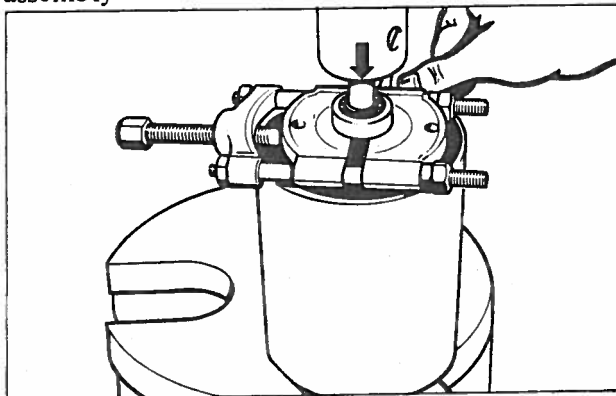

Fig. 51 Pressing bearing out of slip ring end
5. Press the ball bearing out of the slip-ring end with the arbor press and an appropriate device Fig. 51.